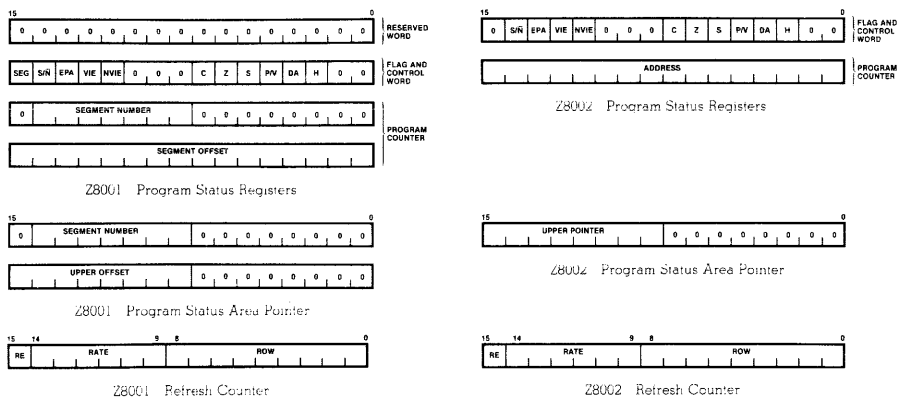

Figure 2-6. CPU Special Registers
In addition to the general-purpose registers, there are special-purpose registers. These include the Program Status registers, the Program Status Area Pointer, and the Refresh Counter; they are illustrated for both CPU versions in Figure 2.6. Each register can be manipulated by software executing in system mode, and some are modified automatically by certain operations.
ister values are fetched from this area when an interrupt or trap occurs. As shown in Figure 2.6, the PSAP comprises either one word (nonsegmented Z8002) or two words (segmented Z8001); for either configuration, the lower byte of the pointer must be zero. Refer to Chapter 7 for more details about the Program Status Area and its layout.
2.7.3 Refresh Counter. The CPU contains a programmable counter that can be used to refresh dynamic memory automatically. The refresh counter register consists of a 9-bit row counter, a 6-bit rate counter and an enable bit (Figure 2.6). Refer to Chapter 8 for details of the refresh mechanism.